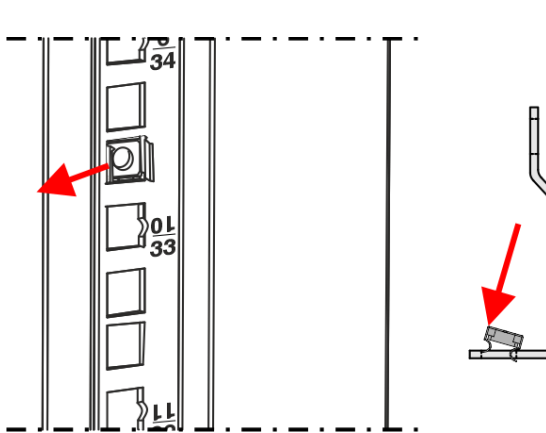
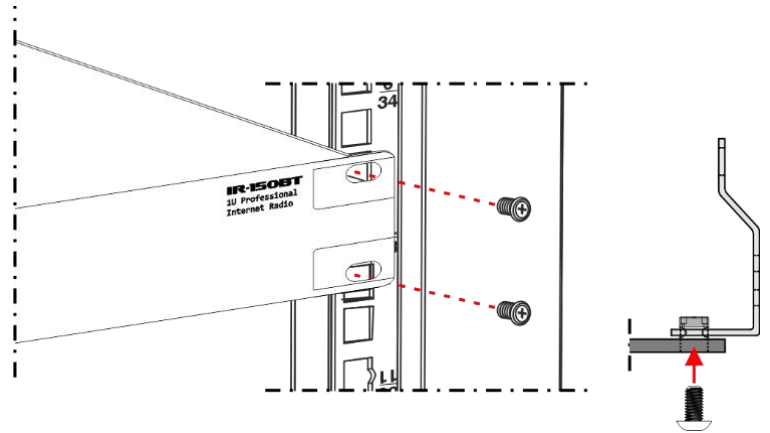

Fig. 45
Fig. 46
- 03) Press the other side of the **cage nut (L)** and push it through the hole, as shown in Fig. 45.
- 04) Repeat steps 2–3 to install the other 3 **cage nuts (L)**.
- 05) Put the equipment in front of the cabinet at the place where the 4 **cage nuts (L)** are installed. Make sure that the mounting holes on the equipment are aligned with the **cage nuts (L)**, as shown in Fig. 46.
- 06) Use a screwdriver to mount the equipment to the **vertical brackets (G)** with 4 **screws (O)**.
- 07) Tighten the 4 **screws (O)** to make sure that the equipment cannot move.